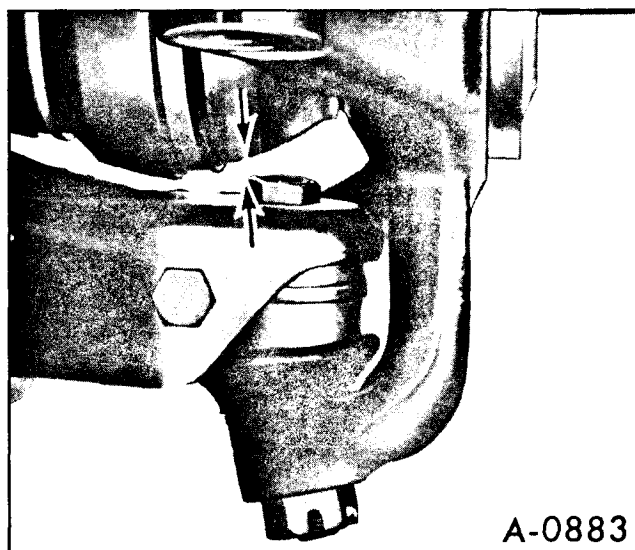

Figure 29-Checking Clearance
3. Check clearance from ball joint nut to drive axle outer joint as shown in Figure 29. If no clearance is obtained, it may be necessary to grind off nut but not more than 1/16".